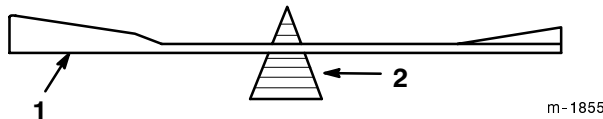

Figure 49
2. Check the balance of the blade by putting it on a blade balancer (Fig. 49). If the blade stays in a horizontal position, the blade is balanced and can be used. If the blade is not balanced, file some metal off the end of the sail area only (Fig. 49). Repeat this procedure until the blade is balanced.